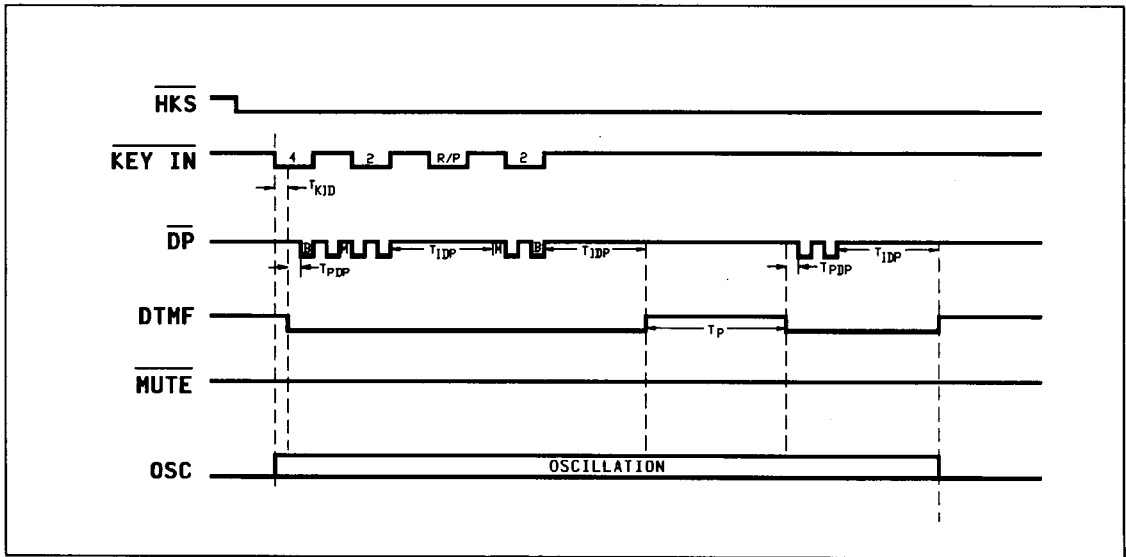

Figure 3. Pause Function Timing Diagram
3. The pause function timing diagram is shown in Fig.3.